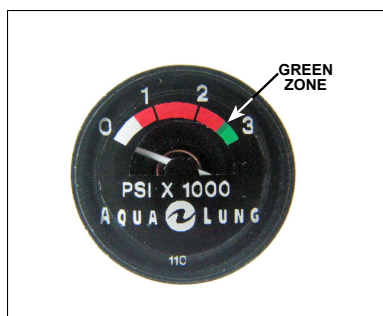

Figure 23
5. Closely examine the pressure gauge to determine whether the needle is within the "GREEN ZONE", indicating that the SEA-3000LW cylinder is full (*Fig. 23*).